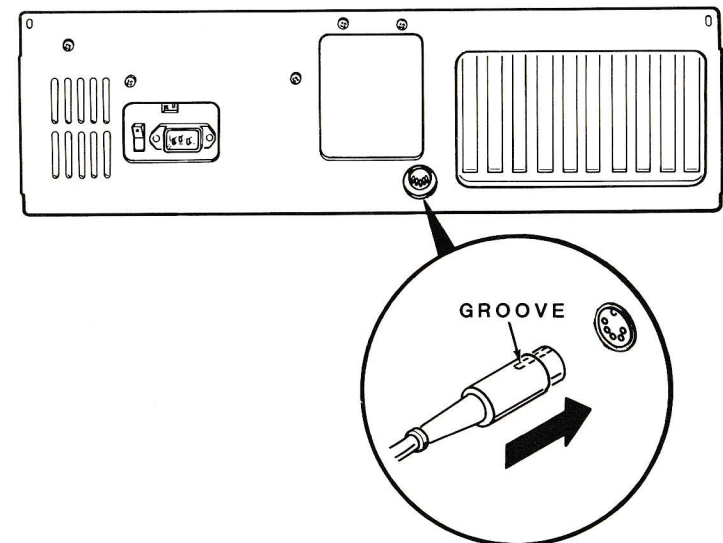

Figure 18. Connecting the Keyboard
1. Locate where the keyboard cable plugs into the back of your computer and disconnect your present keyboard (see Figure 18).
NOTE: The keyboard connector may be in a different location on the back of your computer than that shown in Figure 18.